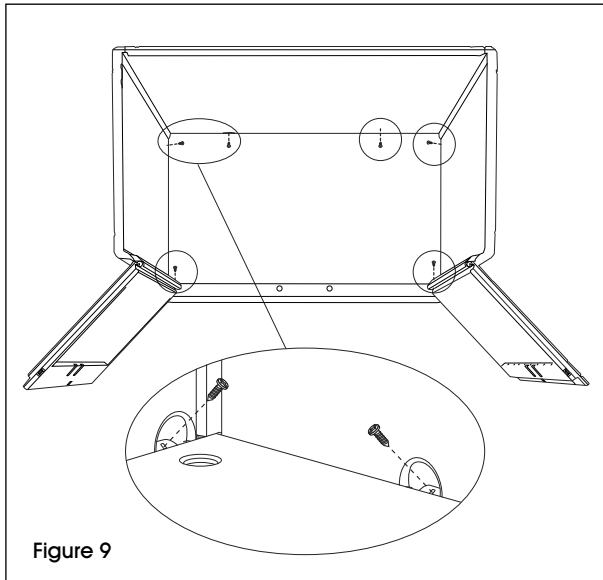

Figure 9
- Secure side and back panels to the floor panel using 6 screws in the dimples along the bottom interior. (See Figure 9)